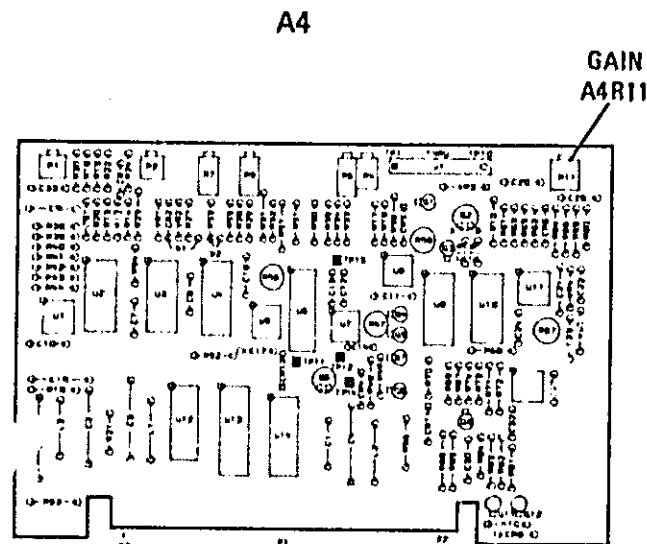

Figure 5-26. ALC Gain Adjustment Location
If, during the following procedure, ALC loop oscillations occur, reduce loop gain by adjusting A4R11 (Figure 5-26) counterclockwise. This adjustment will be set in the next procedure.
8. Observe the trace dot as it sweeps across the CRT. Adjust A4R11 "GAIN" (Figure 5-26) clockwise, increasing the gain of the ALC loop, until the trace dot begins to oscillate. Then, reduce the gain slightly to eliminate oscillations and obtain a focused "dot" trace.